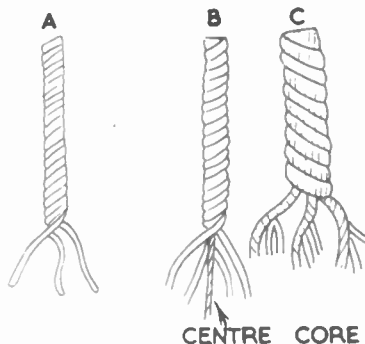

FIG. 2
In order to make this clearer to the reader, in Fig. 2 we have examples of right- and left-handed ropes, (A) is hawser laid rope, (B) shroud laid rope and (C) cable laid rope.